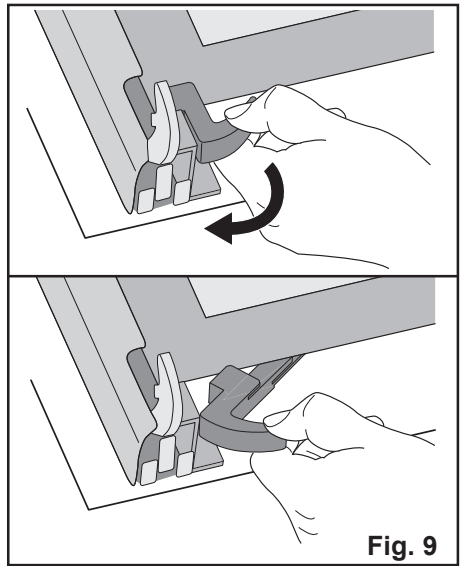

Fig. 9
7. release the locking system to remove the internal panes of glass (Fig. 9);